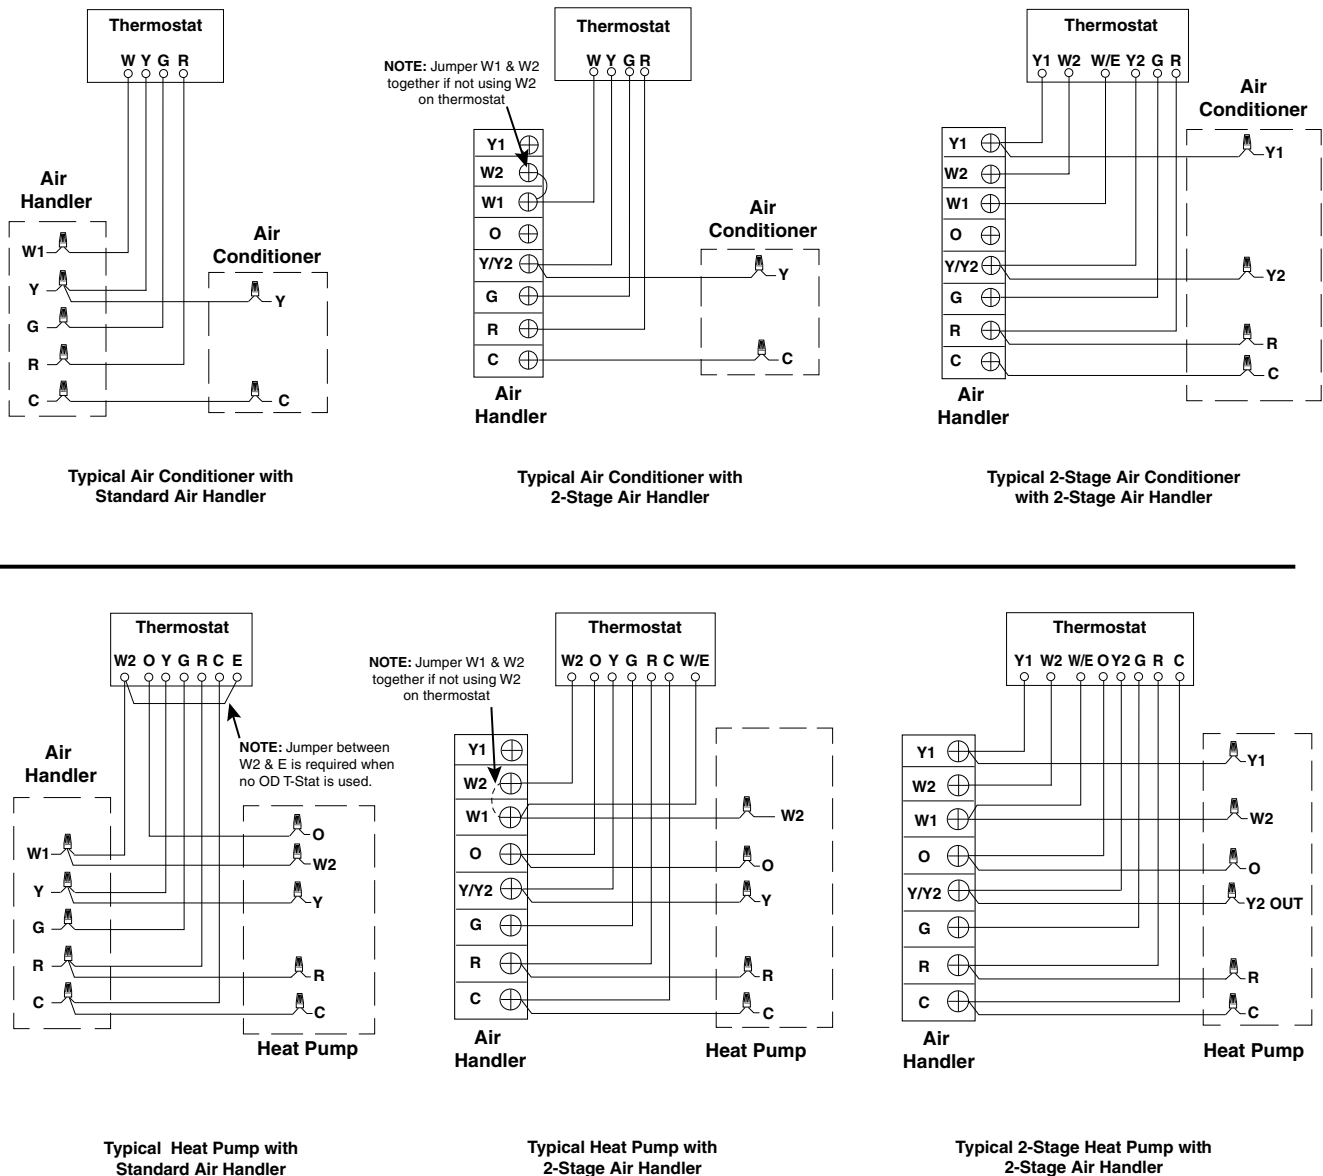

Figure 9. Typical Thermostat Connections
- Thermostat connections shall be in accordance with the instructions supplied with the thermostat. The thermostat used with this equipment must operate in conjunction with any installed accessories. Typical AC and air handler hookups are shown in Figure 9 \(page 12\).